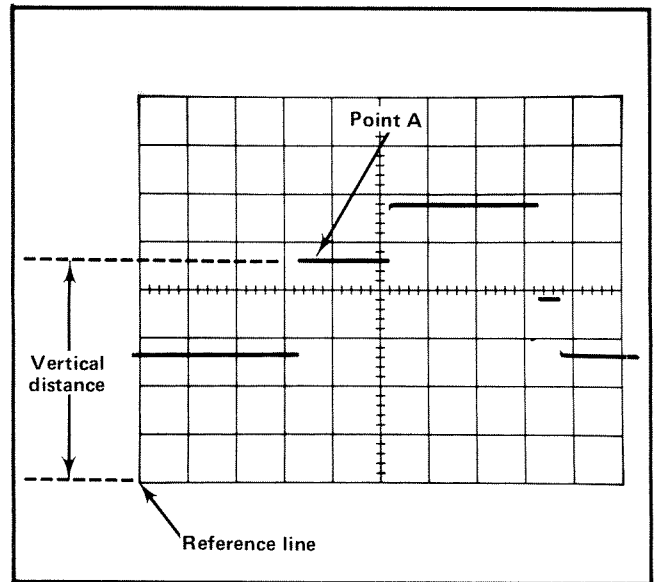

Fig. 2-3. Measuring instantaneous voltage with respect to some reference.
7. Measure the distance in divisions between the reference line and the point on the waveform at which the DC level is to be measured. For example, in Fig. 2-3 the measurement is between the reference line and point A.
EXAMPLE: Assume the vertical distance measured is 3.6 divisions (see Fig. 2-3) and the waveform is above the reference line using a 10X probe with a VOLTS/DIV switch setting of 0.5 V.